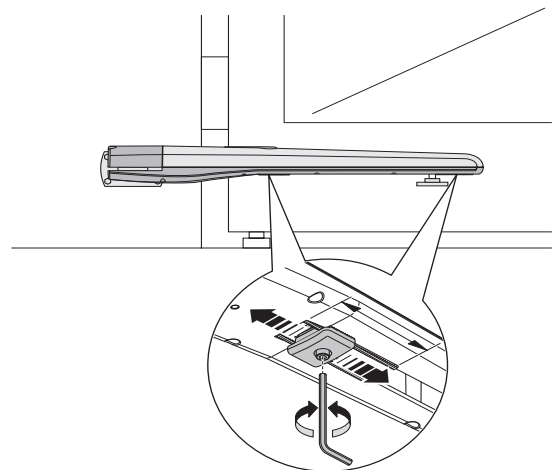
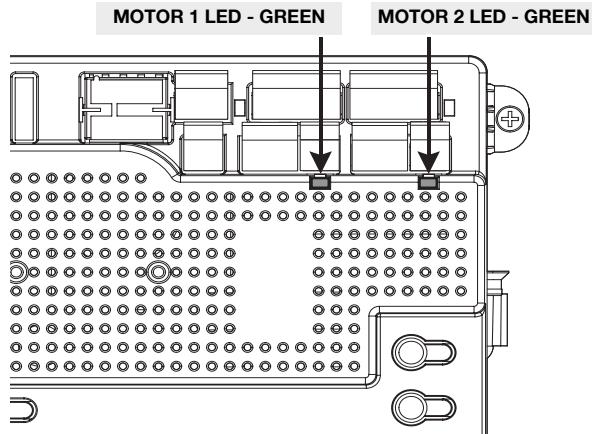
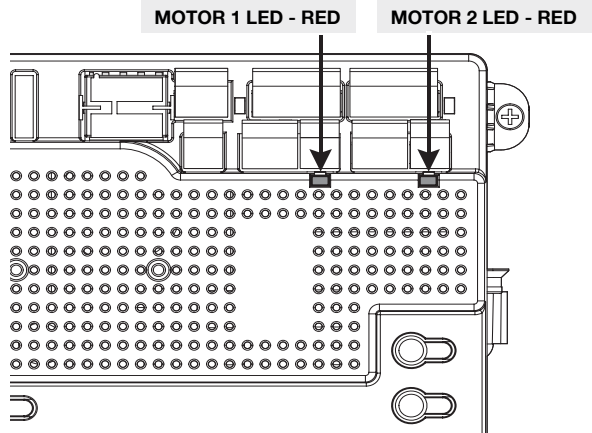

Figure 18 - T5 LIMIT SWITCH AND MECHANICAL STOP ADJUSTMENT
Figure 19 - Green OPEN LED
Figure 20 - Red CLOSE LED
7. T5X1K motors - Adjust the Open Limit Switch (See Figure 18) until the GREEN light illuminates on the front of the control board (See Figure 19). The FULLY OPEN limit switch is now set.
T524V motors - Adjust the Mechanical Stop (See Figure 18) against the pin for the gate bracket.
9. T5X1K motors - Adjust the Closed Limit Switch (See Figure 19) until the RED light illuminates on the front of the control board (See Figure 20). The fully CLOSED limit switch is now set.